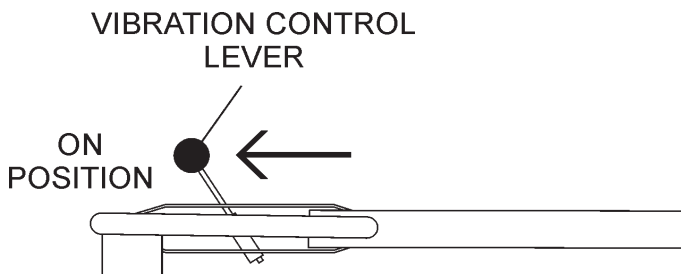

Figure 30. Vibratory Control Lever (ON)
1. For vibratory action, with the engine running (full speed) place the vibratory control lever ( Figure 30) to the ON position. The roller will now produce a vibratory frequency of 4,400 vps.